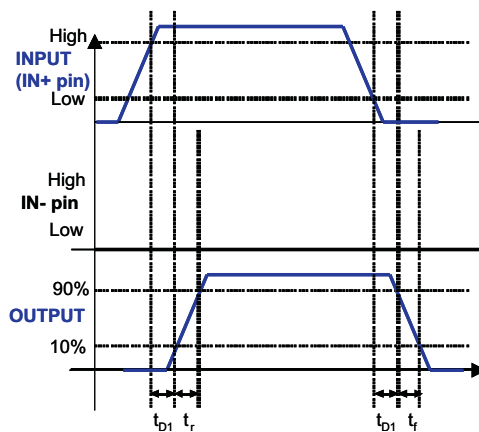
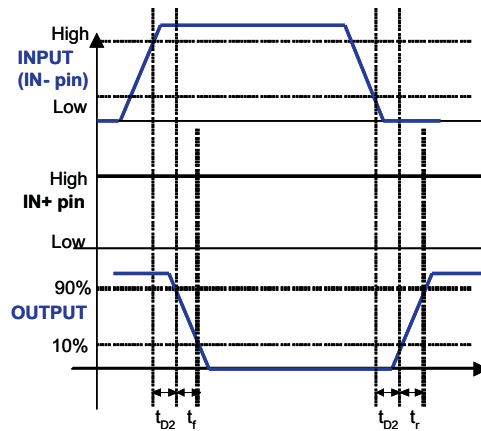
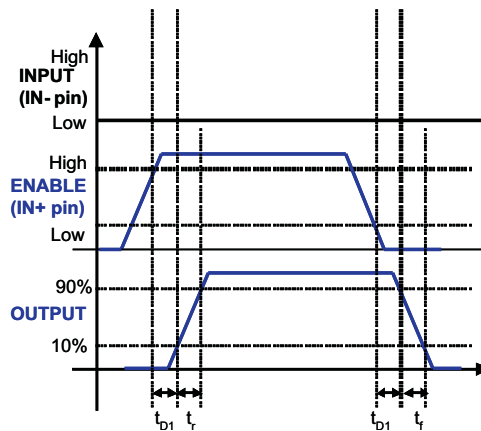

Figure 1. Non-Inverting Configuration (PWM Input to IN+ pin (IN- pin tied to GND))
Figure 2. Inverting Configuration (PWM input to IN- pin (IN+ pin tied to VDD))
Figure 3. Enable and Disable Function Using IN+ Pin (Enable and disable signal applied to IN+ pin, PWM input to IN- pin)
(3) See timing diagrams in Figure 1, Figure 2, Figure 3 and Figure 4.